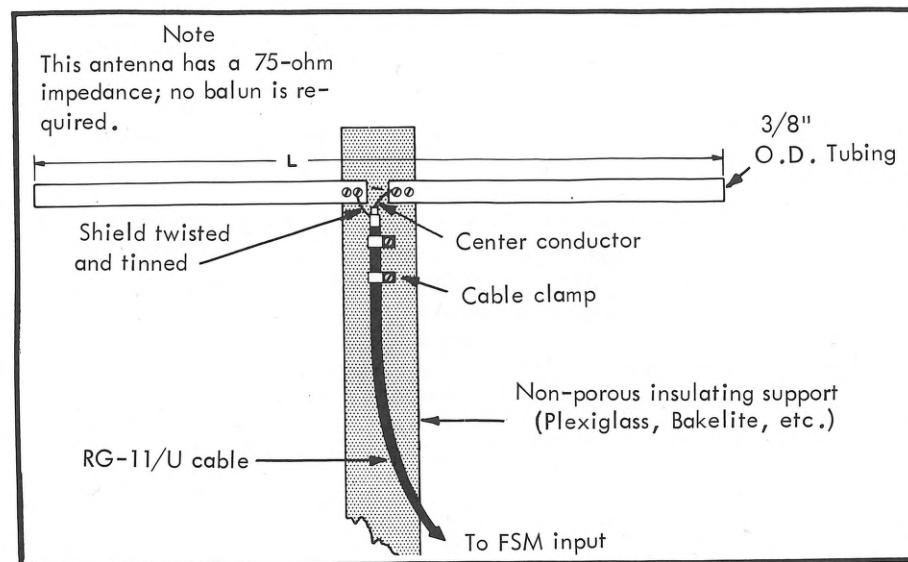

Figure 7. Fabrication Diagram Straight Dipole
Field strength measurements may be made by fabricating one of the standard dipoles shown in Figure 7 or 8. Compute dipole length (L) from the following formula: